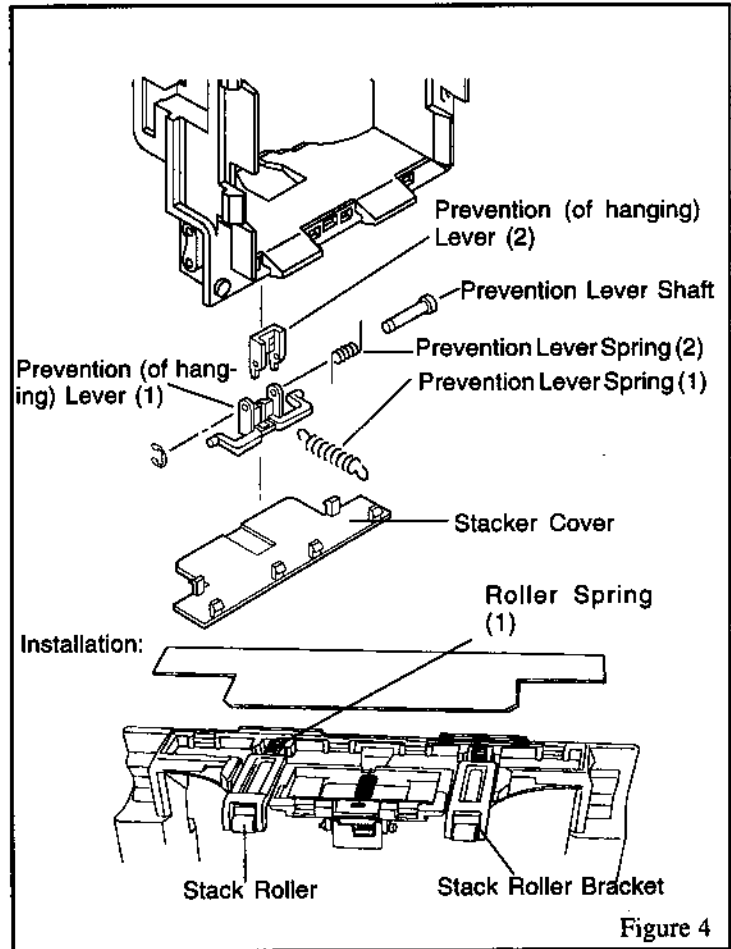

Figure 4
3. Remove the cover and the individual parts as shown in Figure 4.